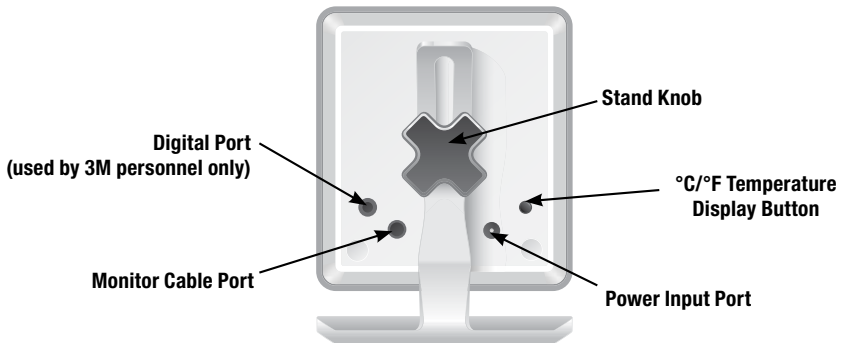

Figure 5: Back of Control Unit
2. Connect the power supply to the back of the SpotOn control unit (see Figure 5: Back of Control Unit).
4. If desired, use the provided monitor cable to connect the SpotOn control unit to the patient monitor (see Figure 5: Back of Control Unit).